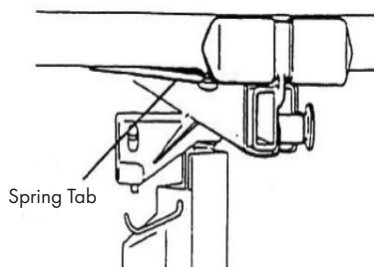

Figure 27
- Press each crossarm forward into the socket until the spring tab on the bottom of the crossarm snaps into place as shown in Fig. 27.